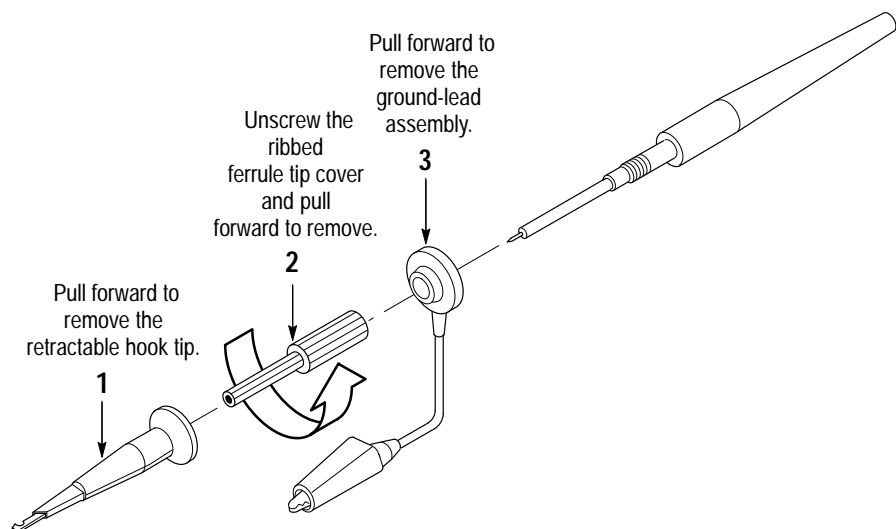

Figure 5–5: Exposing the Inner Probe Tip
- a. *Expose the Inner Probe Tip:* Follow the instructions in Figure 5–5.
- Connect the output of a high-frequency sine wave generator, through its leveling head, to a female-to-female adapter. See Figure 5–6.